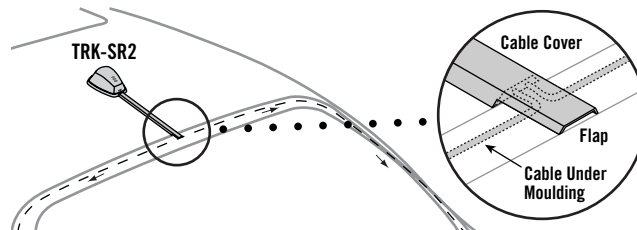

Figure 9. Positioning the TRK-SR2 on a vehicle's roof so the cable cover flap extends over the rear window molding.
2. Peel off both protective backings from the cable cover and antenna module. Lightly position the end of the cable cover at the rear window molding, as shown in Figure 9 on the next page.
NOTE: The end flap should extend over the molding (see Figure 9).